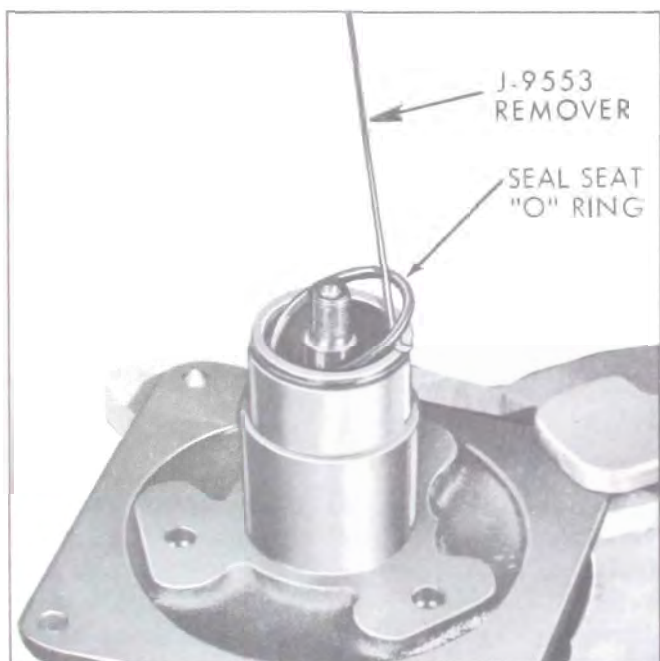

Figure 11-52—Removing Shaft Seal Seat O-Ring
5. Remove O-ring from interior of front head casting bore, using J-9553 remover. See Figure 11-52.